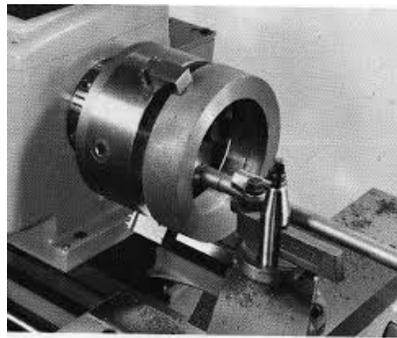

Figure Turn-23: drill a hole before an internal turning
1. As in figure Turn-23, drill a suitable hole in the required surface to make an easy entry to the internal turning tool (this can be done on a drilling machine or lathe).